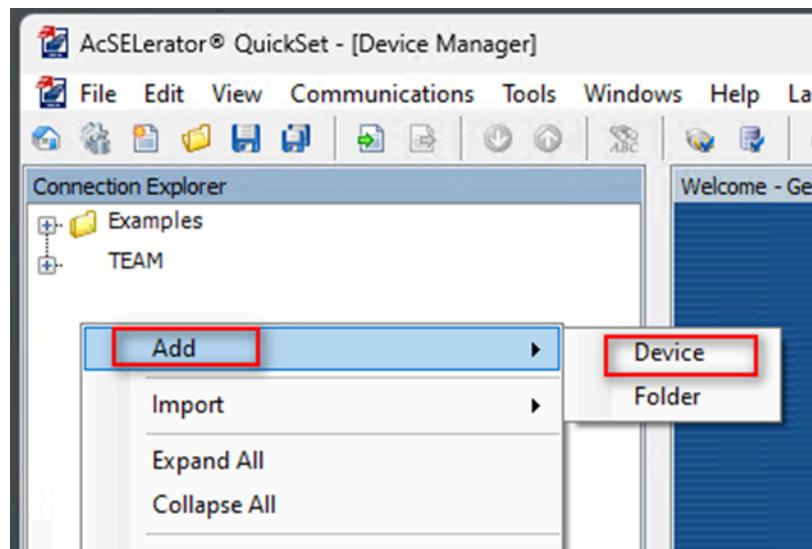

Figure 5.89 Add Blueframe Device Node
Step 1. With Device Manager open, right-click either on a folder or in the white space of the connection explorer and select **Add > Device**, as shown in *Figure 5.89*. For this example, we will create a connection for an SEL-734 device.
- Step 2. Select the SEL-734 device from the Select Device Type window. See *Figure 5.89*.